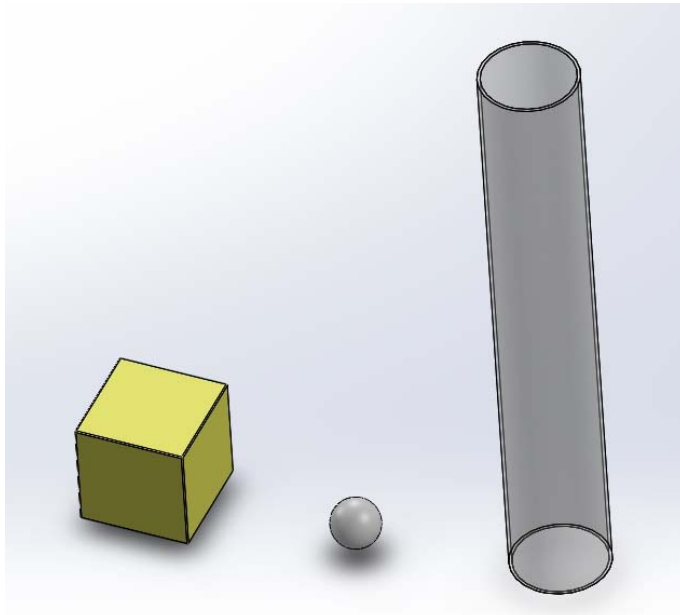
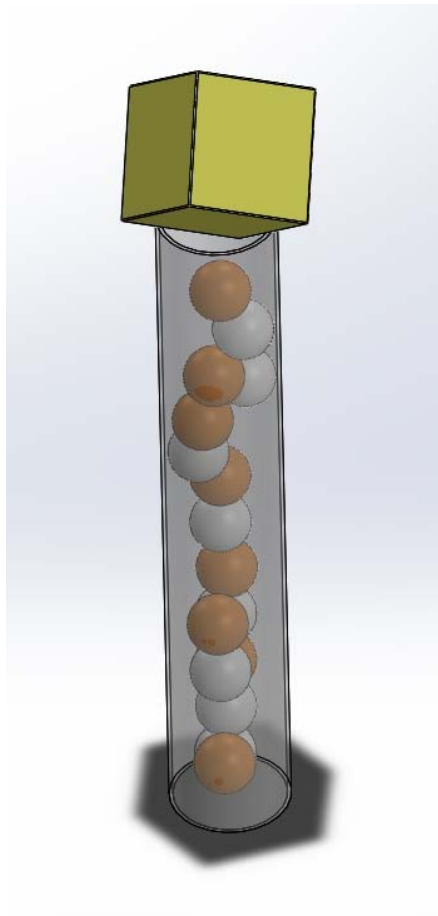

Figure 3: (From the Left) The cube, ping-pong ball and tube
Figure 4: Stacking of the scoring objects in the field during set up
1. There are 2 types of scoring objects in play (as seen in figure 3). They are arranged in a tower as in figure 4 and five of such towers will be lined up along the middle line between the 2 team's zones. **Please take note that the tube is open on both sides.** Teams are expected to push the tubes and topple the towers to introduce ping-pong balls into the environment.